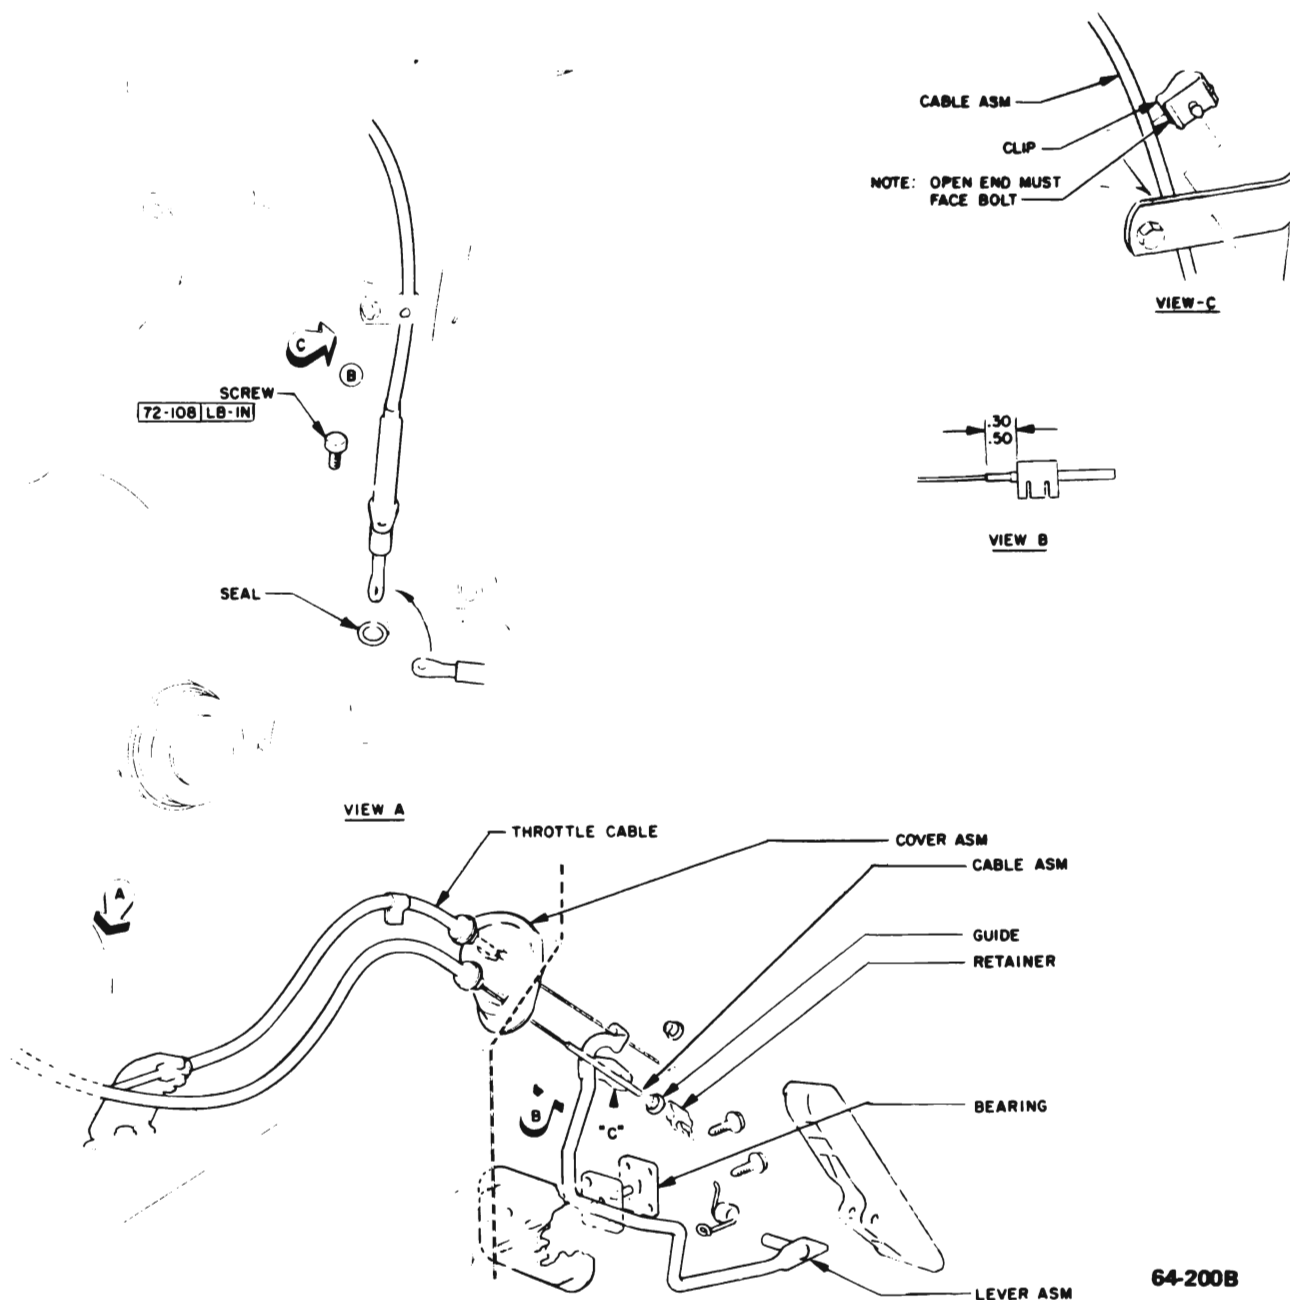

Figure 64-2 - Throttle Linkage and
2. Adjust engine idle speed and mixture. See paragraph 64-2. With throttle linkage in hot curb idle position, measurement from throttle rod pin horizontally to dash must be 5-7/8 inches \pm 1/4 inch (Series 45-46-48000) or 8-1/4 inches \pm 1/4 inch (Series 49000). If measurement is off, shorten or lengthen throttle rod as required to correct. See Figure 64-2.